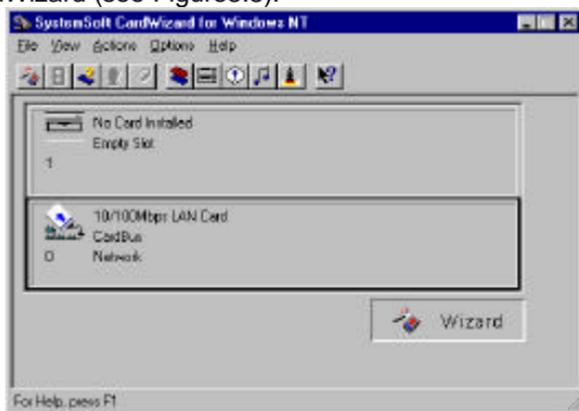

Figure 5.8 CardWizard Window
10. Select the slot of “10/100Mbps LAN Card” on the SystemSoft CardWizard window, then click Wizard button to activate CardWizard (see Figure5.8).